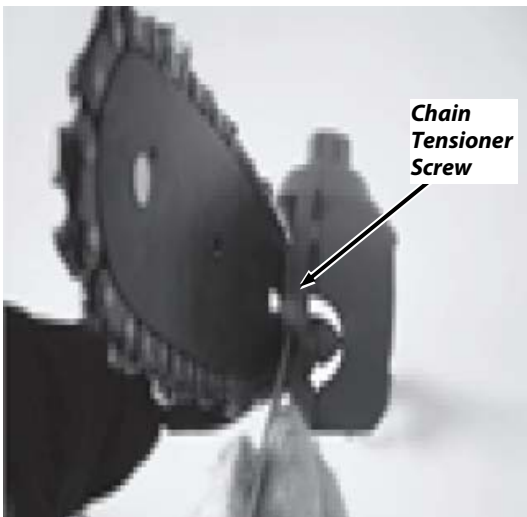

Figure 4
5. Tighten the Chain Tensioner Screw only enough to hold the Bar and Chain in Place (**Figure 4**).